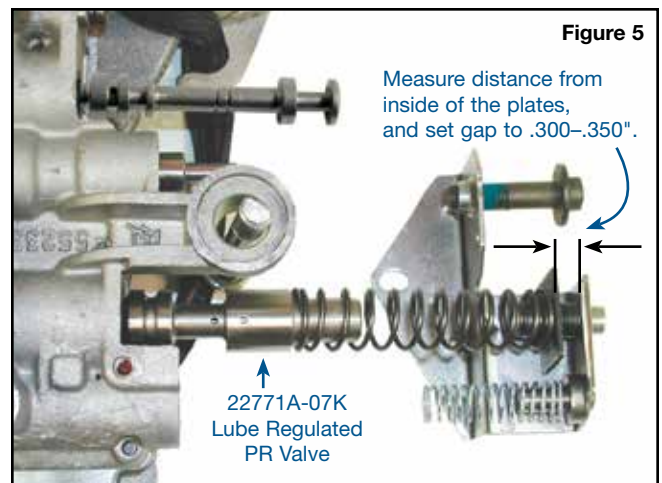

Figure 5
- Install the Sonnax lube regulated pressure regulator valve, spring and OE spring retainer bracket (**Figure 5**).